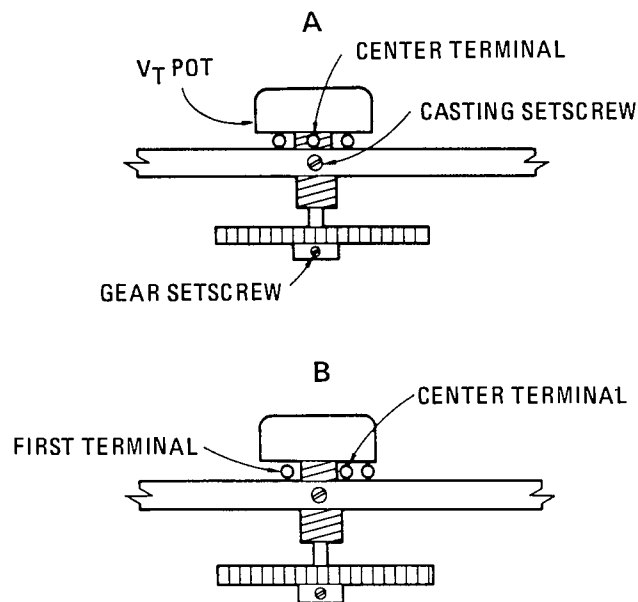

Figure 5-3. V_T Pot Adjustment
3. Install pot with gear in casting so that center terminal (934 wire) is in line with casting setscrew (see Figure 5-3,A).